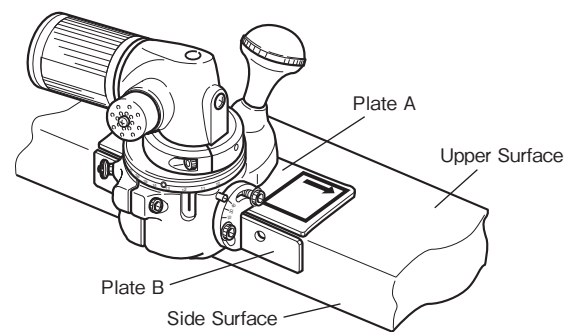

Fig. 14
- (1) Select the radius chamfering.
- (2) Make sure that the Valve is set at "OFF" position and connect the air hose to the tool.
- (3) Hold the Housing up. Start the tool.
- (4) Hold the Housing and Knob firmly. Apply the tool on to the workpiece along with the direction A (shown on the Plate A) carefully.
- ① Place the tool on workpiece with Plate A on upper surface of workpiece and Plate B on side surface, as indicated in Fig.14. Then, turn the Eccentric Ring to adjust the Indexable Inserts to cut properly side surface, and conduct the first cut (see Fig.15).
- ② Next, placing Plate A on side surface and Plate B on upper surface, conduct the second cut.